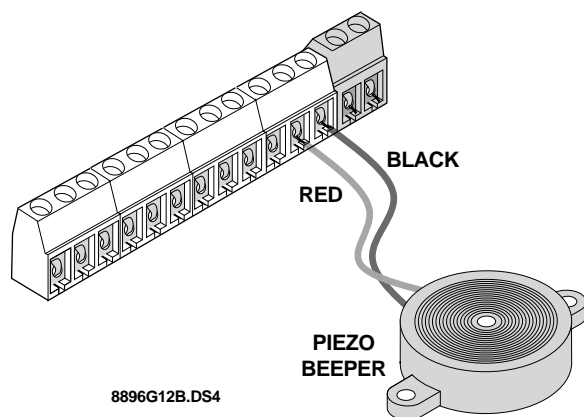

Figure 14. Piezo Status Beeper Connections
- 1) Connect a piezo (30-006) beeper between the test output (T) and ground (GND) (see Figure 14).